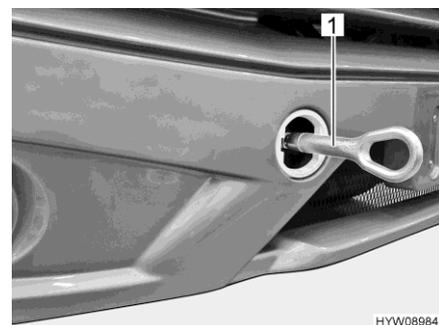

Fig. 39 Towing eye (mounted)
- Mount the towing eye (Fig. 39,1) in accordance with the instructions in the operating manual of the base vehicle.